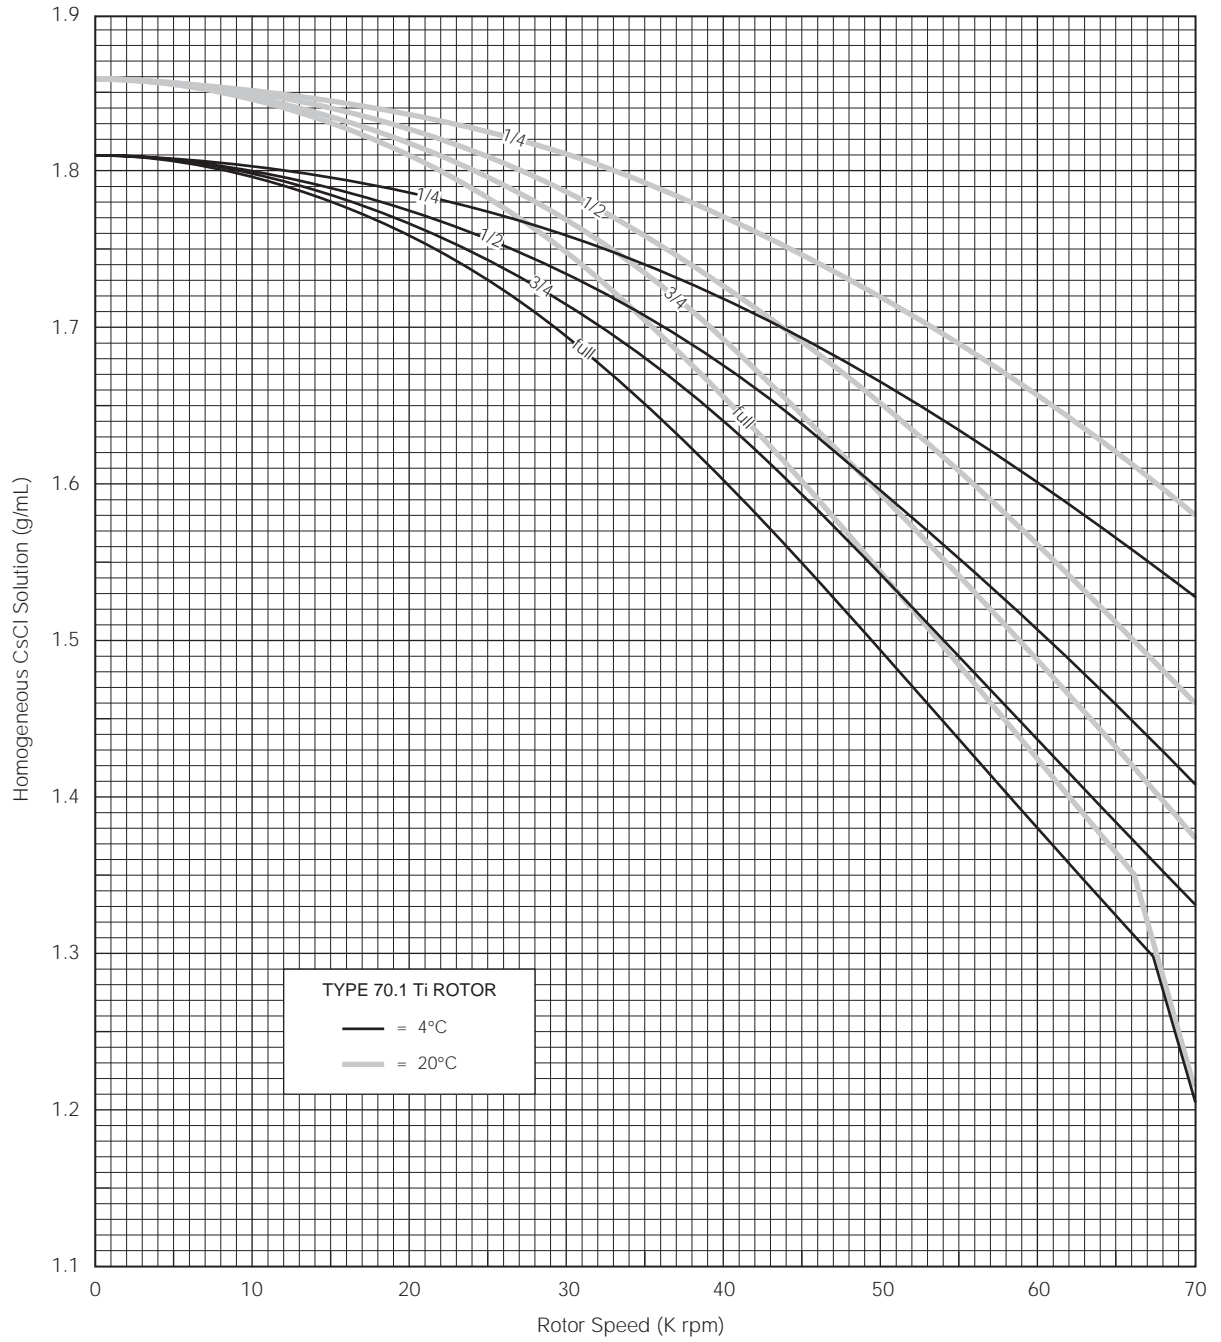

Figure 2. Precipitation Curves for the Type 70.1 Ti Rotor.
2. *Further speed limits must be imposed* when CsCl or other self-forming-gradient salts are centrifuged, as equation (6) does not predict concentration limits/speeds that are required to avoid precipitation of salt crystals. Solid CsCl has a density of 4 g/mL, and if precipitated during centrifugation may cause catastrophic rotor failure and instrument damage. Figures 2 and 3, together with the description and examples below, show how to reduce run speeds when using CsCl gradients.
Precipitation during centrifugation would alter density distribution, and this would change the position of the sample bands. Curves in Figures 2 and 3 are provided up to the maximum rated speed of the rotor, but note also that *tubes or bottles must never be centrifuged faster than the limits in Table 1.*
The curves in Figures 2 and 3 are for solutions of CsCl salt dissolved in distilled water only. If other salts are present in significant concentrations, the overall CsCl concentration may need to be reduced.
Rotor speed is used to control the slope of a CsCl density gradient, and must be limited so that CsCl precipitation is avoided. Speed and density combinations that intersect on or below the curves in Figure 2 ensure that CsCl will not precipitate during centrifugation in the Type 70.1 Ti rotor. Curves are provided at two temperatures: 20°C (gray curves) and 4°C (black curves).
The reference curves in Figure 3 show gradient distribution at equilibrium. Each curve in Figure 3 is within the density limits allowed for the Type 70.1 Ti rotor: each curve was generated for a single run speed using the maximum allowable homogeneous CsCl densities (one for each fill level) that avoid precipitation at that speed. (The gradients in Figure 3 can be generated from step or linear gradients, or from homogeneous solutions. But the total amount of CsCl in solution must be equivalent to a homogeneous solution corresponding to the concentrations specified in Figure 2.) Figure 3 can also be used to approximate the banding positions of sample particles.
Figures 2 and 3 show that several fill volumes are possible in a tube. If a tube is partially filled with gradient solution, float mineral oil (or some other low-density, immiscible liquid) on top of the tube contents to fill the tube to its maximum volume. (Do not use an oil overlay in Ultra-Clear tubes.) Note that for a given CsCl density, as the fill level decreases the maximum allowable speed increases. Partial filling may be desirable when there is little sample or when you wish to shorten the run time.
For example, a *half-filled* tube of 1.60-g/mL homogeneous CsCl solution at 4°C may be centrifuged at 50 000 rpm (see Figure 2). The segment of the 50 000-rpm curve (Figure 3) from the half-filled line to 1.81 g/mL at the tube bottom represents this gradient. The same solution in a *quarter-filled* tube may be centrifuged no faster than 60 000 rpm. (Gradient curves not shown in Figure 3 can be interpolated.) A tube *full* of the 1.60-g/mL CsCl solution may be centrifuged no faster than 40 000 rpm.
1. In Figure 2, find the curve that corresponds to the required run temperature (20°C) and fill volume (full). The maximum allowable rotor speed is determined from the point where this curve intersects the homogeneous CsCl density (50 000 rpm).
4. From Figure 2, select the maximum homogeneous CsCl density (in this case, 1.72 g/mL) that corresponds to the temperature and run speed established above. These parameters will provide the particle-banding pattern selected in Step 2.